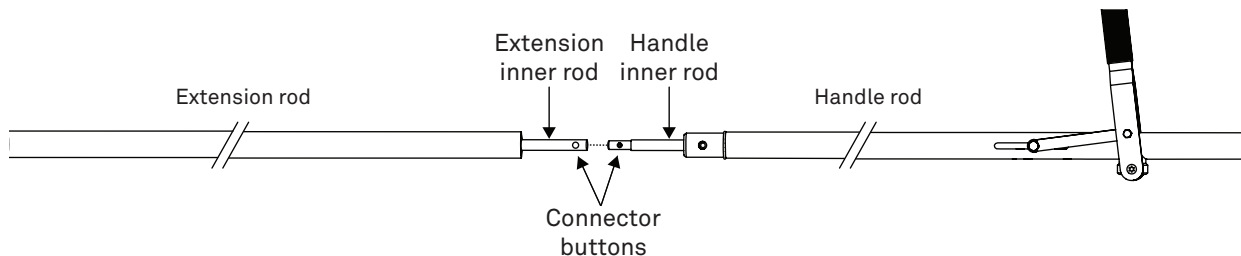

Figure 5 Connect inner extension rod to inner handle rod
1. Connect the handle inner mount to the inner extension rod (Figure 5).